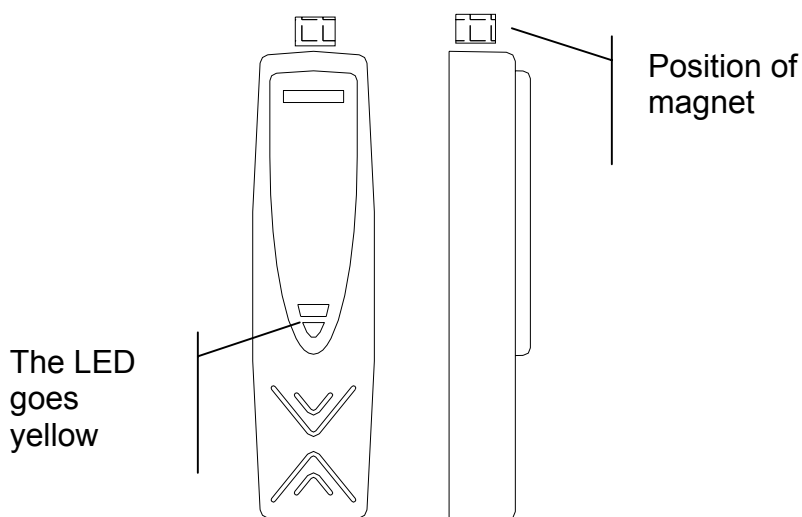

Figure 13: Calling the Service Pin Using a Magnet
To identify the node, you can call the service pin using the relay-reed found inside the device (see Figure 13). Use the following steps for this procedure:
1. Place a small magnet as indicated in Figure 13 to call the service pin. The signal is linked to the yellow service LED (at the center), which will blink throughout the operation.